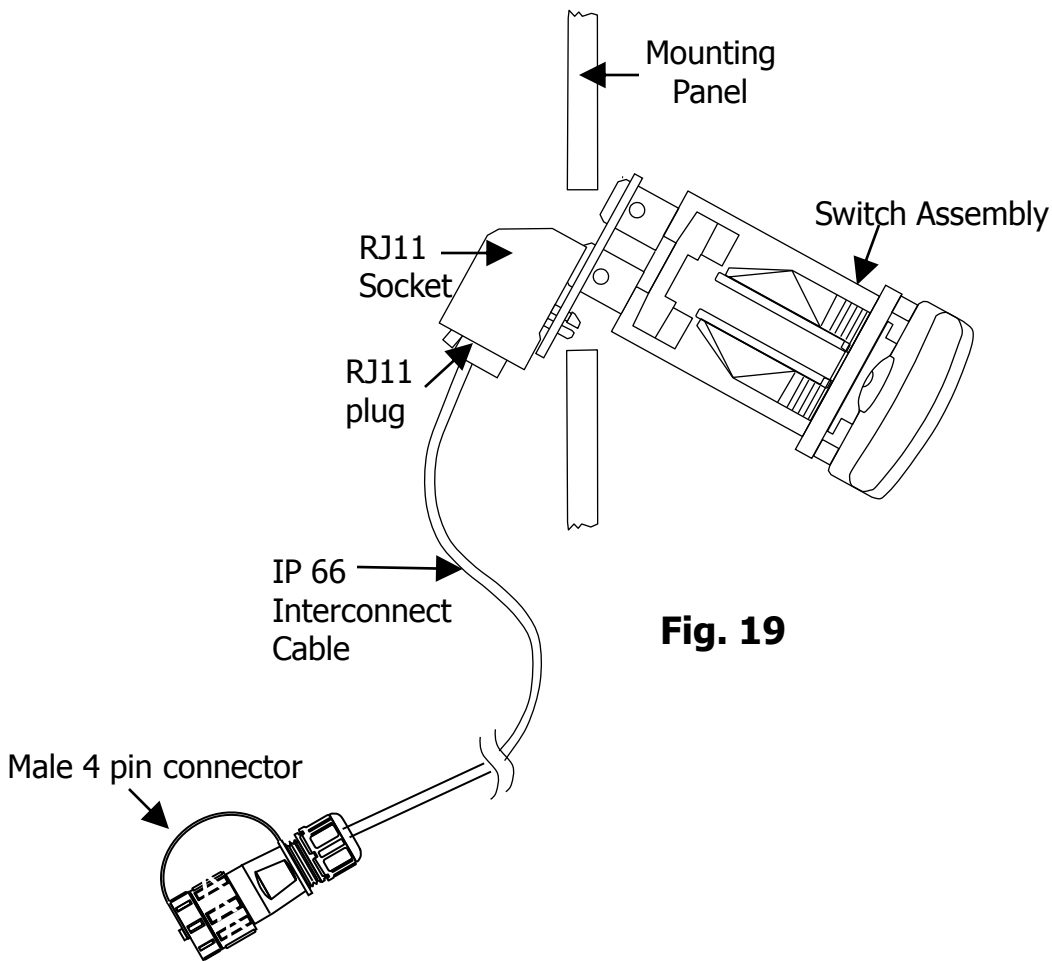

Fig. 19
- Angle switch as shown in **Fig. 19** to begin entry to the panel.